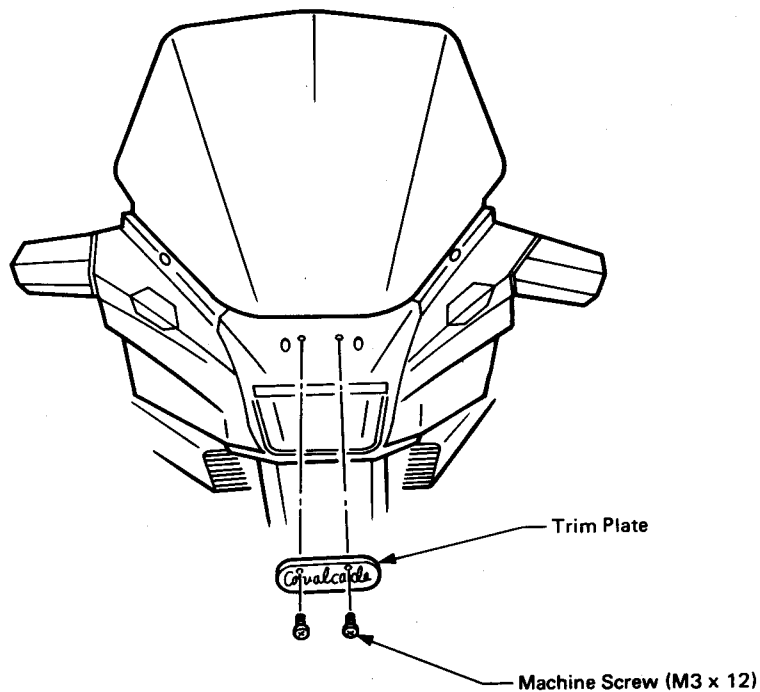

Fig. 1
1. (1) Remove the Machine Screws and the Trim Plate, as shown in Fig. 1.